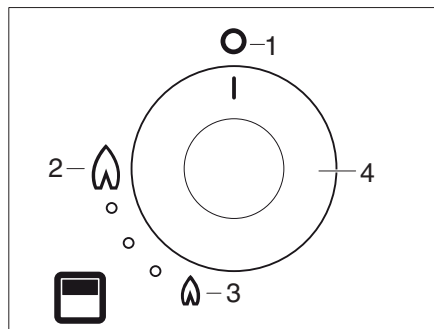

Fig. 171 Control knob of the grill
- ▶ Open the door and push the control knob (Fig. 171,4).
- ▶ Continue pressing the control knob and turn it anti-clockwise to the full rate position (Fig. 171,2).
- ▶ Keep the control knob (Fig. 171,4) pressed for about 10-15 seconds and then release it.
Always make sure the control knob is in the 0 position (Fig. 171,1) when you have finished using the grill.